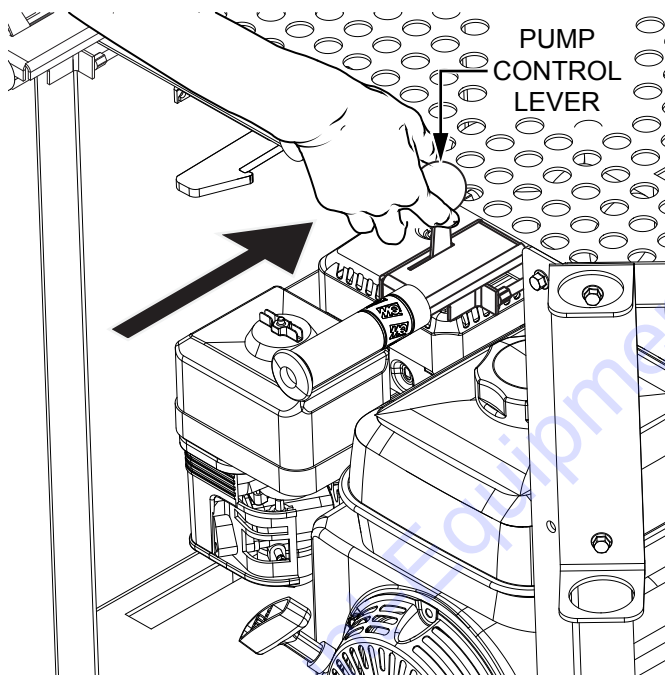

Figure 30. Engage Pump
1. To activate the pump, push the pump control lever forward until it latches in the forward position (Figure 30). The self-priming pump will begin to displace liquid within a few seconds.